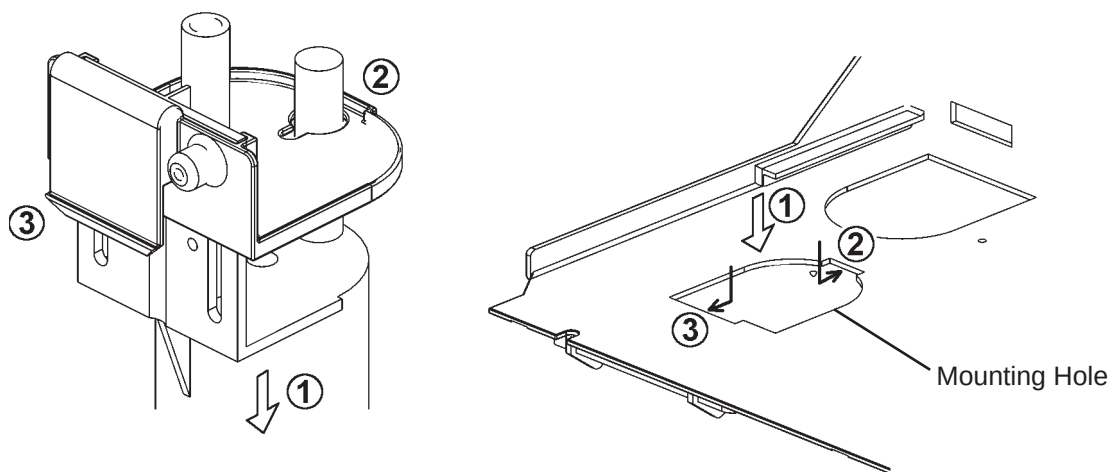

Fig. 11
10) Put the FS down into the mounting hole and hook it in position as shown. See Fig. 11. To ensure proper operation, be sure to fit the hook A under the mounting hole.